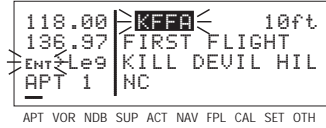

Figure 3-40
- If **Ent** is flashing on the left side of the screen, then press **ENT**. This will prompt the KLX 135A to display a waypoint page for the waypoint identifier you just entered (figure 3-40).